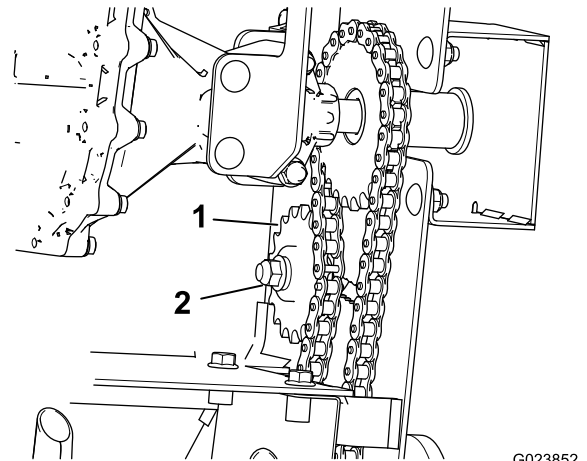

Figure 28
- A. Loosen the nut securing the idler sprocket of the chain you are tensioning (Figure 28).